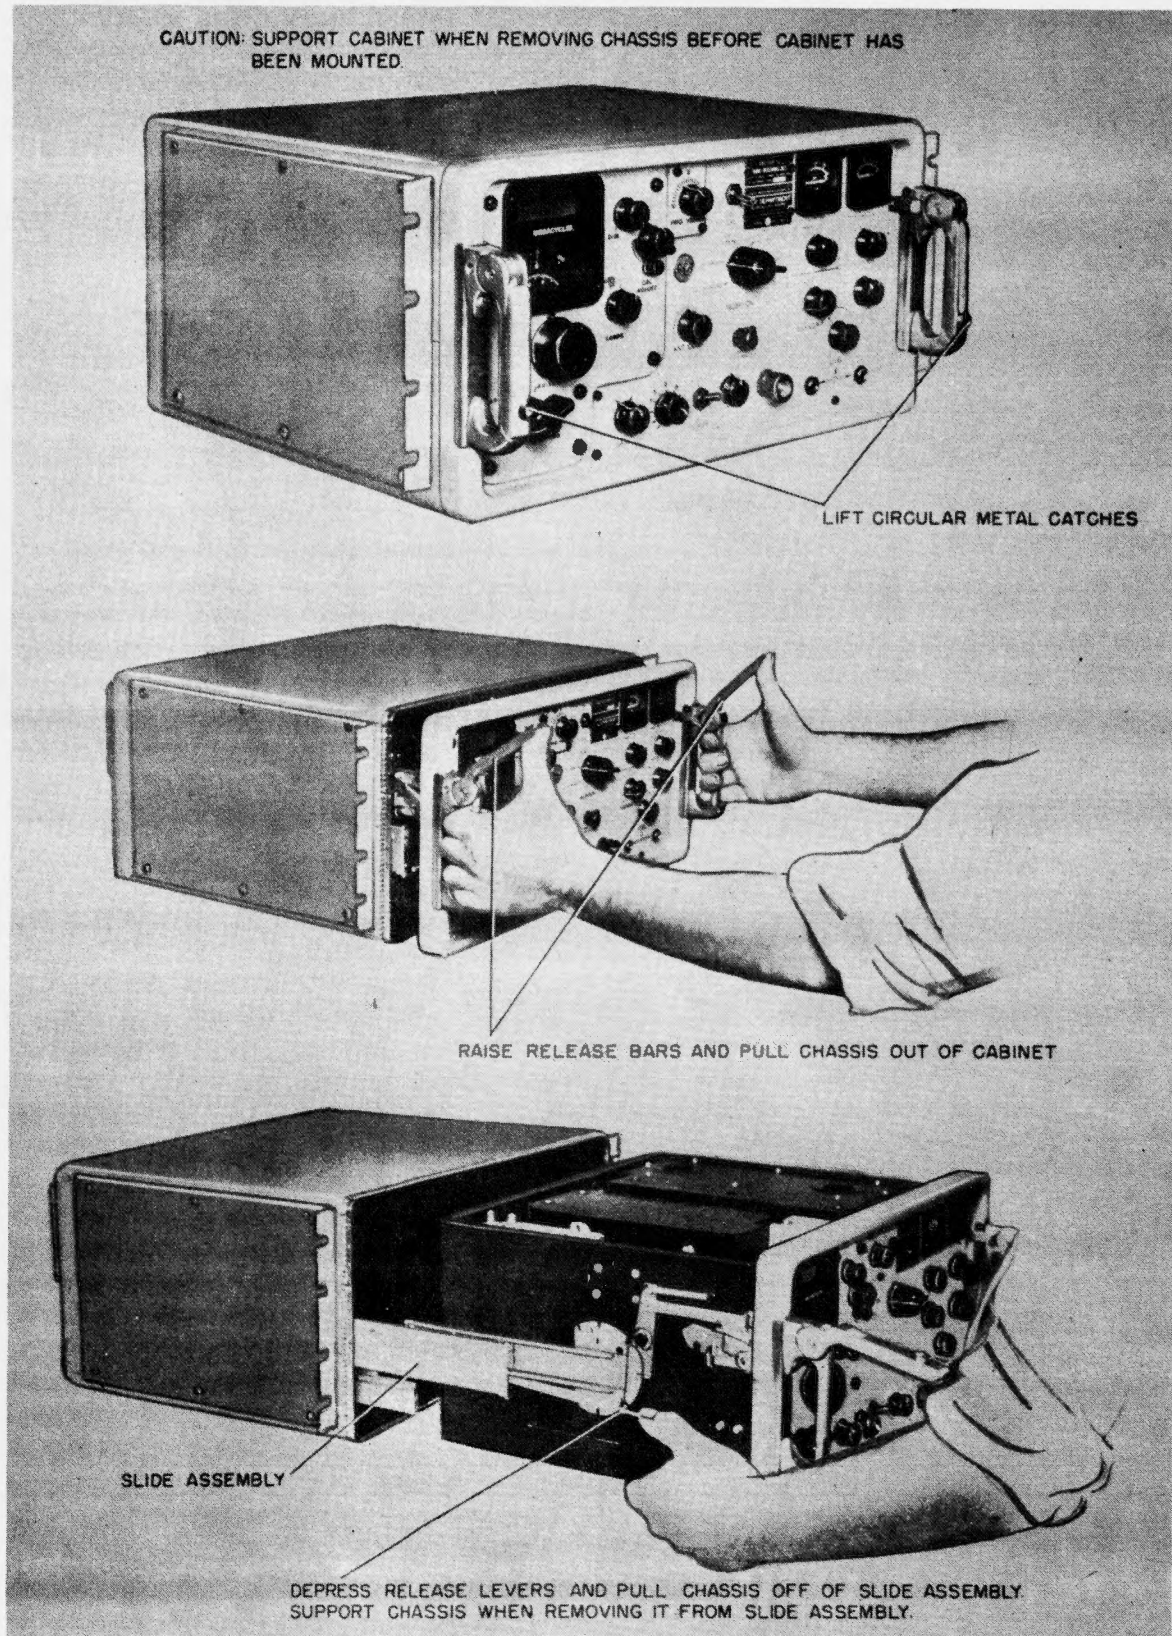

Figure 3-2. Removal of Chassis from Case
(1) RECEIVER OR COMPARATOR KEYSER CHASSIS. - Refer to figure 3-2. Lift the circular metal catches located toward the bottom of the two handles at the sides of the front panel and raise the two release bars astride the handles as far as they will go, then slide the chassis out. Depress the two chassis release levers located on the sides of the chassis, and pull the chassis off the slide assembly.
(2) R-F OSCILLATOR CHASSIS. - The chassis of this unit is mounted on its front panel and the complete unit must be taken out of the cabinet in order to service it. It is necessary to disconnect the cables at the rear of the unit before removal from the cabinet.